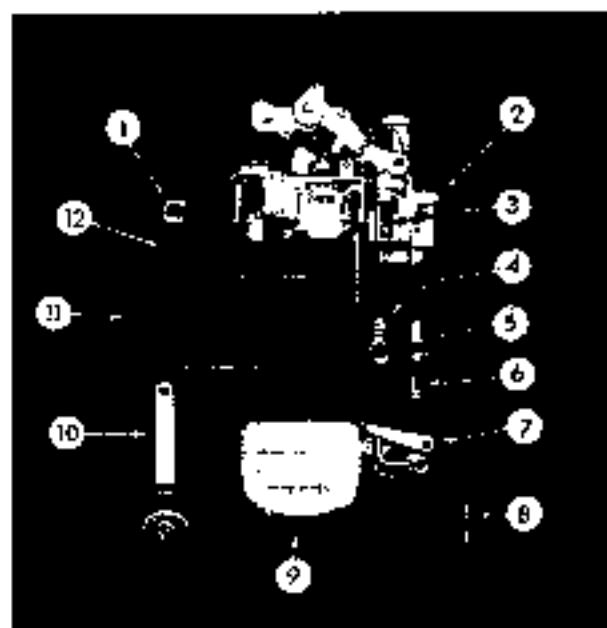
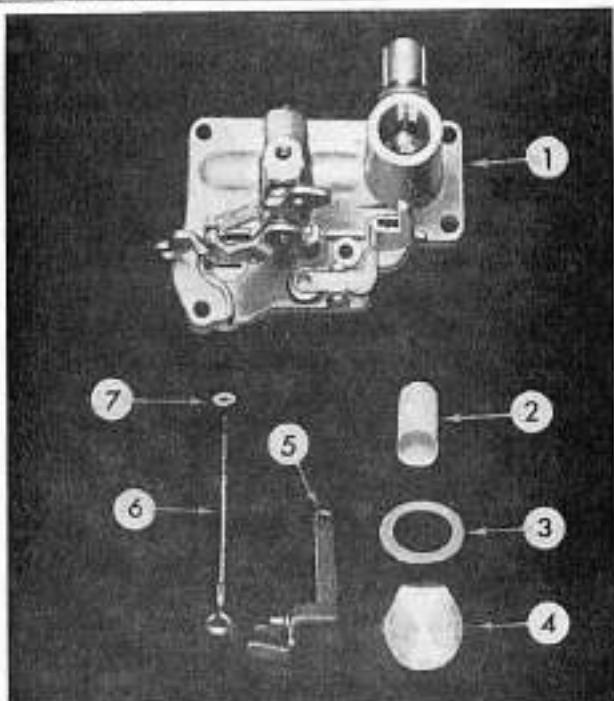

FIG. 400
FIG. 401
To disassemble the bowl cover assembly, turn the vacuum piston (4, Fig. 400) 90° counterclockwise and unhook it from the vacuum piston link (3). Remove the vacuum piston link (5, Fig. 401) with metering rod spring and the metering rod (6) and disk (7) from the bowl cover (1). Remove the disk from the metering rod, unhook the metering spring, and remove the rod from the vacuum piston link. Then remove the strainer nut (4), gasket (5), and strainer (2). Then, remove the hair pin clip (12) and pump connector link (11) and remove the accelerating pump